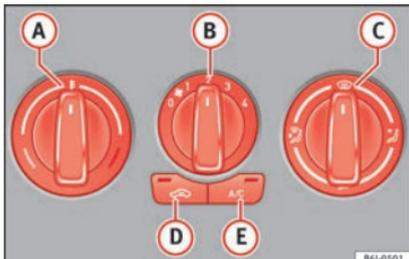

Fig. 154 Air conditioning controls on the dash panel.
- Using the rotary switches **A**, **B** and **C** »» **Fig. 154** you can adjust temperature, blower speed and air distribution.
- Turn off the cooling system using the »» **Fig. 154** **A/C** button (the button light turns off).
If the rotary switch  » **Fig. 154** is in the thaw position, the recirculation flap will always be open (button light off).
- Press button  » **Fig. 154**, the switch's lamp will light up, indicating that air recirculation inside the vehicle has been activated.